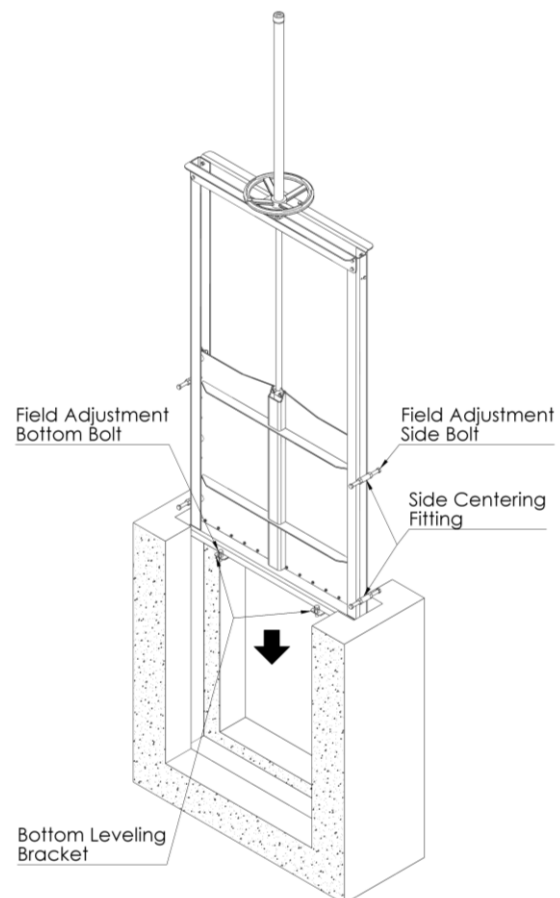

Figure 1
- Position and center the channel gate in the recess of the wall, using the field adjustment bolts screwed in the "Side Centering Fittings" and "Bottom Leveling Brackets" (see Figure 1). Make sure that the channel gate is centered in the channel. NOTE: the smaller CC Channel Gates do not come with "Bottom Leveling Brackets". If this is the case, follow Step 1B prior to starting with "Step 2" in order to be able to align the gate vertically